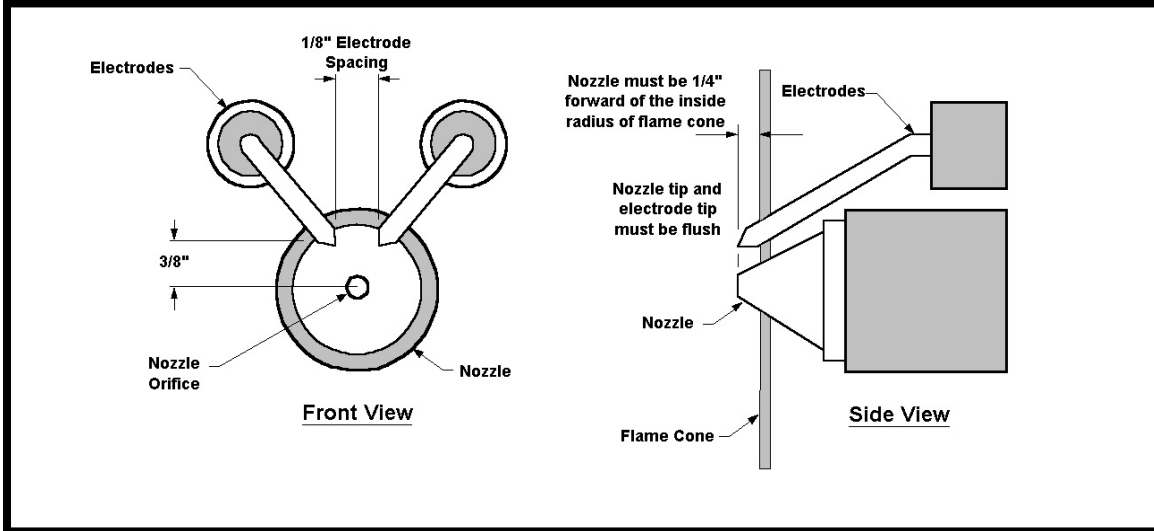

Figure 6 –Electrode Adjustment Diagram
3. **Yearly** Inspect and adjust electrodes per (figure 6). **CAUTION: turn off main electrical power before checking or adjusting electrode settings.** Inspect and check alignment
of nozzle in relation to flame cone/burner tube (figure 6). Tip of nozzle must be 1/4" forward of inside radius of flame cone. If nozzle is behind inside radius of flame cone, coking will occur and flame cone can clog. To adjust, loosen Pre-Heater block securing nut and set screw, push fore or aft as needed then retighten securing nut and set screw.